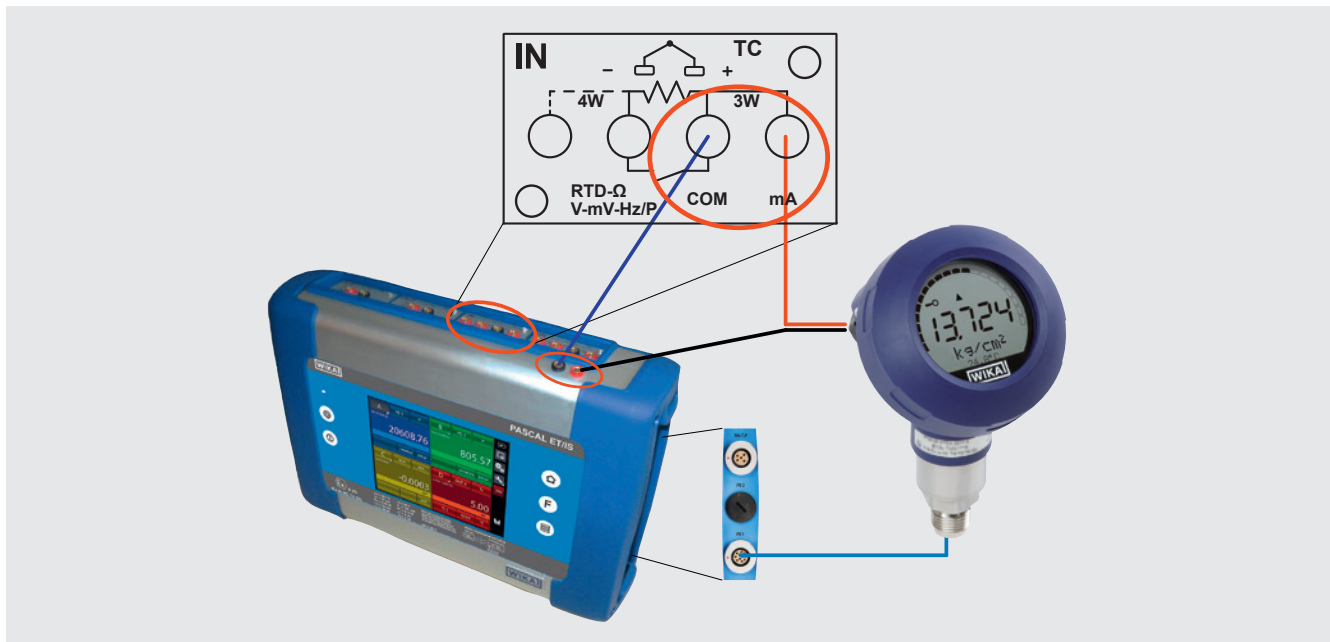

Fig. 87 - Pressure transmitter calibration example
- Make the connections as indicated (Fig. 87 “Pressure transmitter calibration example”).